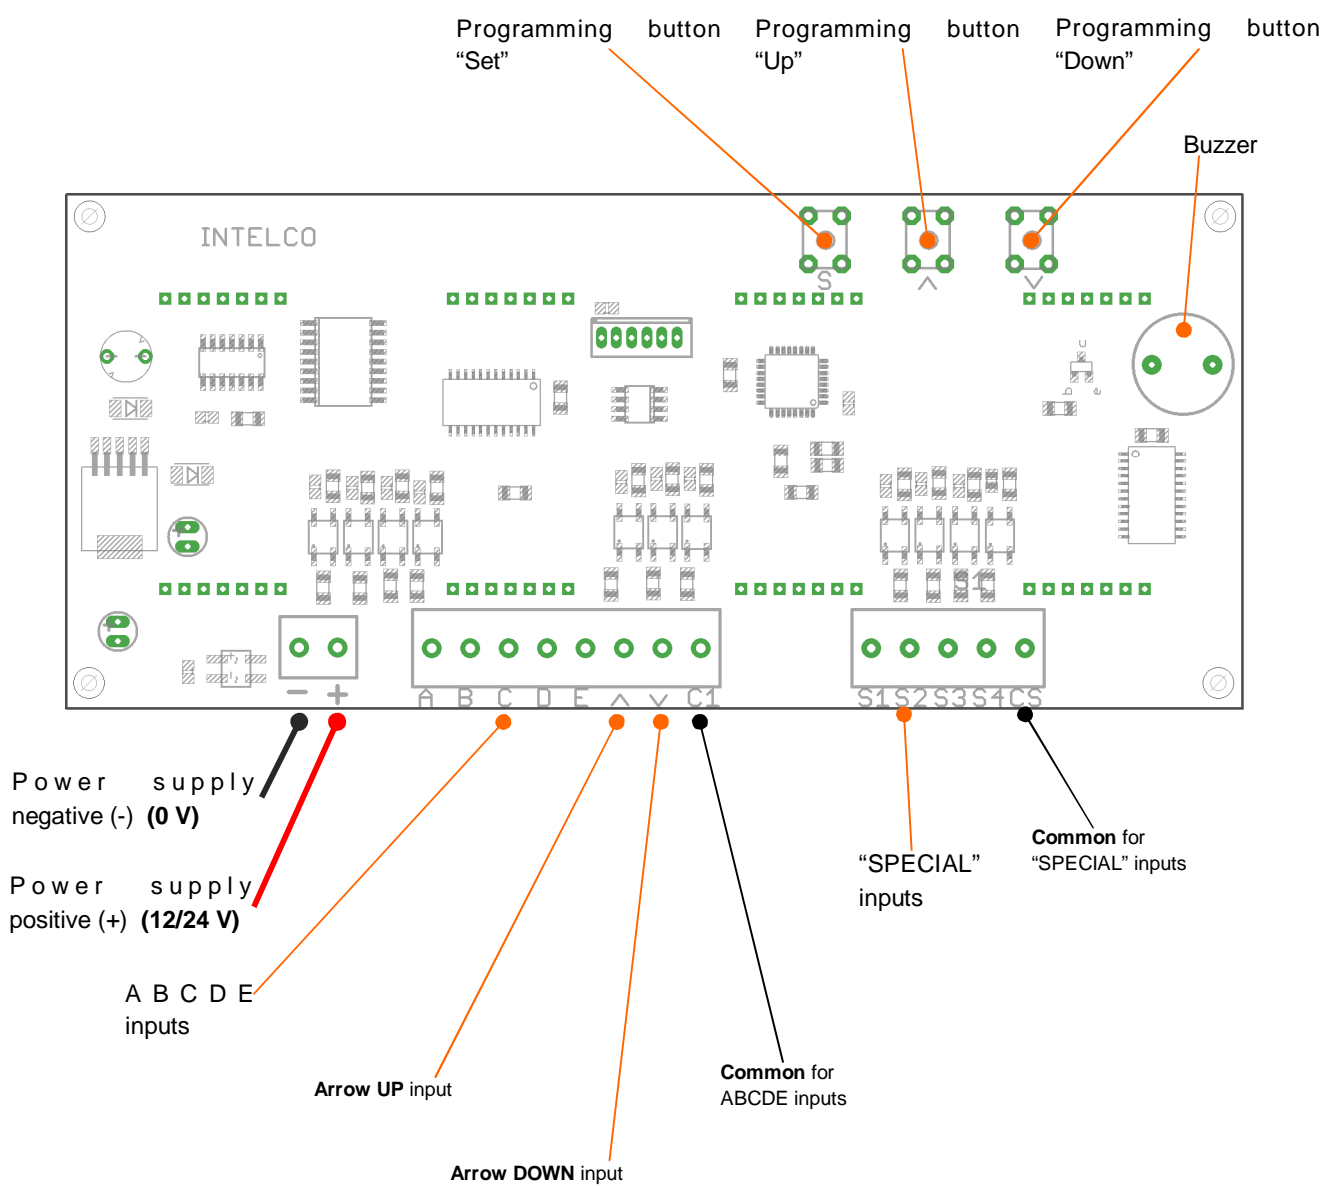

Figure 1
Connection of a **INTP0461 (4 Digit 2")** to a lift controller using BCD input format, arrows UP/DOWN, overload, and service, as seen on figure 1.
**The whole programming is represented at the two middle blocks, and the figures 1, 2 below shows the two middle blocks.**